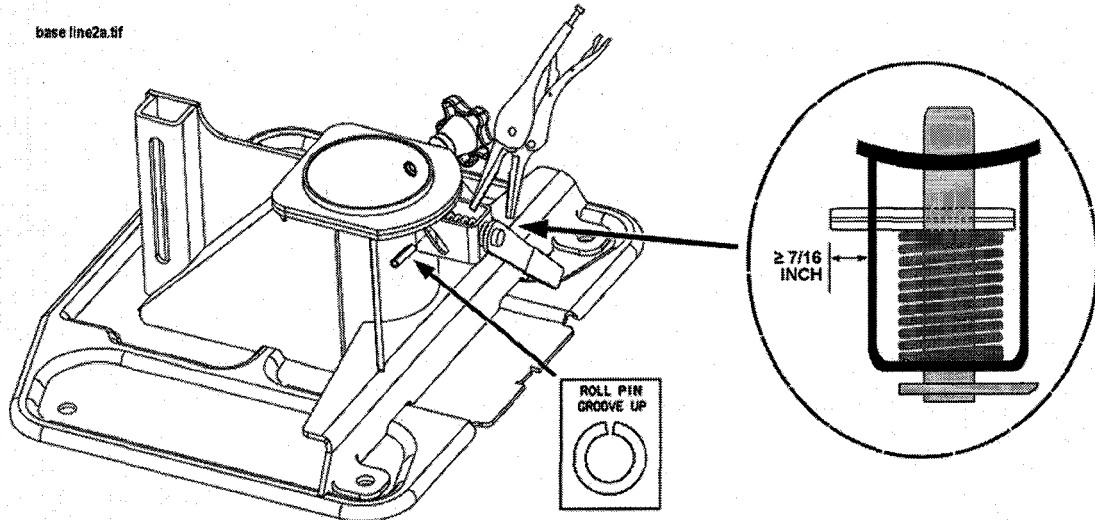

FIGURE 15.
9. Using locking pliers, compress the tension spring; then, use a hammer to install the new roll pin. See FIGURES 15 & 16. The roll pin is correctly installed when the following conditions are met: